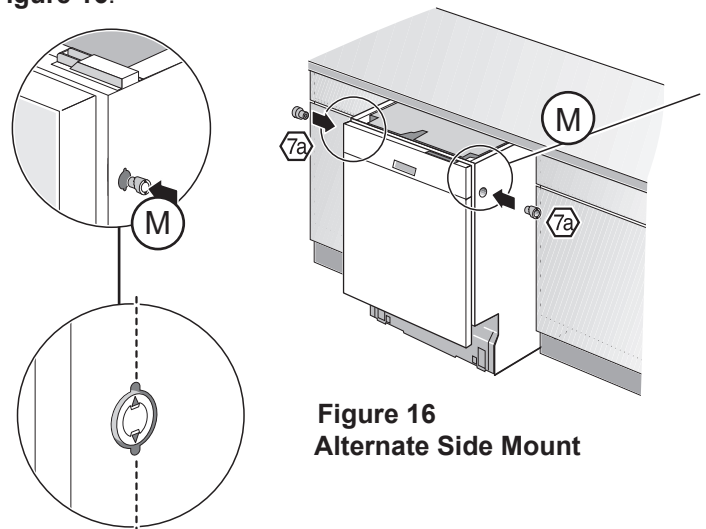

Figure 16
Alternate Side Mount for opening $23\frac{5}{8}"$ (600 mm). Insert a side mount force distributor (M) in each side as shown in **Figure 16**.